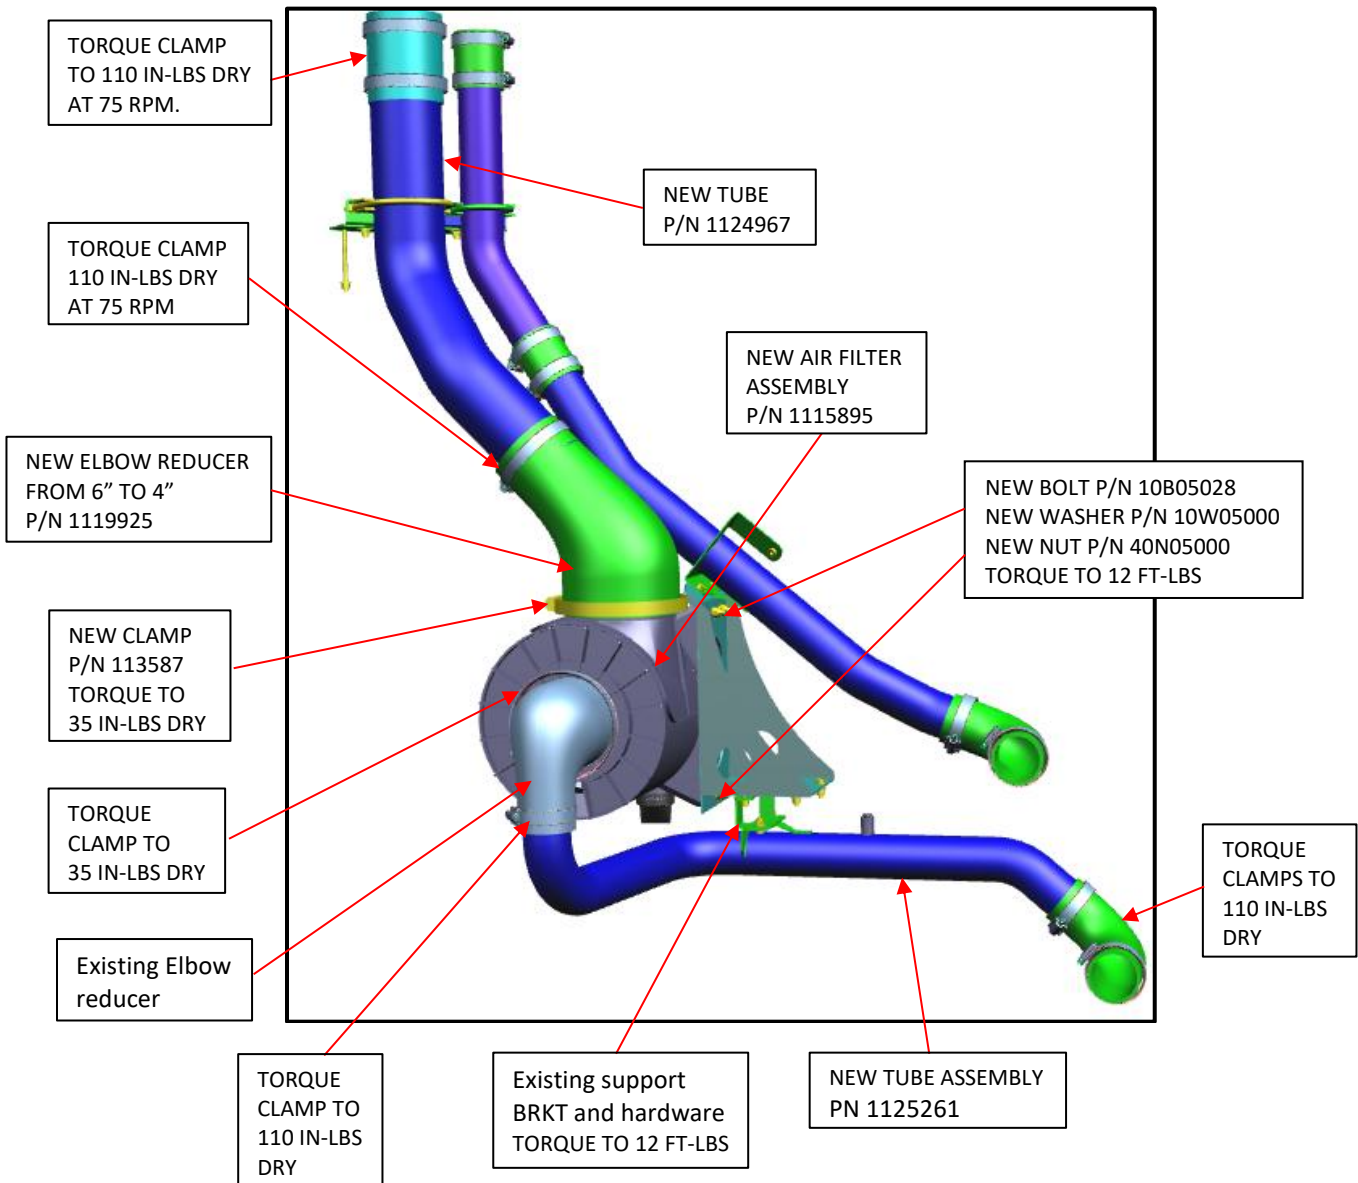

Figure 9: Air filter and intake tube location reference
18. Install new air filter assembly along with new air intake tubes and secure it using existing clamps as shown below. See figure 9.
19. Remove tape from elbow and secure FC air intake tube using same support bracket and hardware. See figure 9.